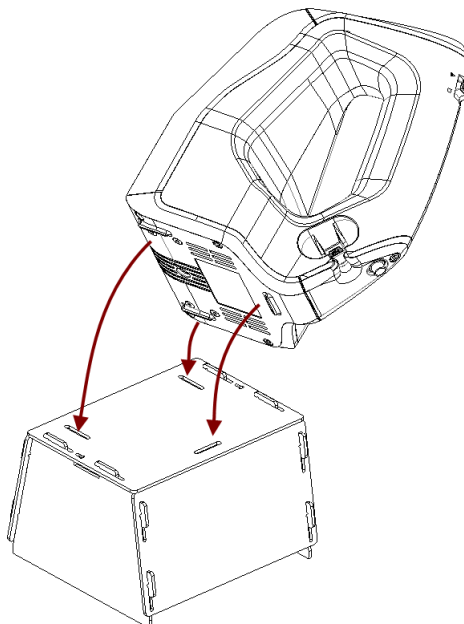

Figure 235: Placing Artec Spider on the stand
3. Place the scanner on the scanner stand, making sure that you insert the three scanner stems in the three slots of the stand cover (see Figure 235).